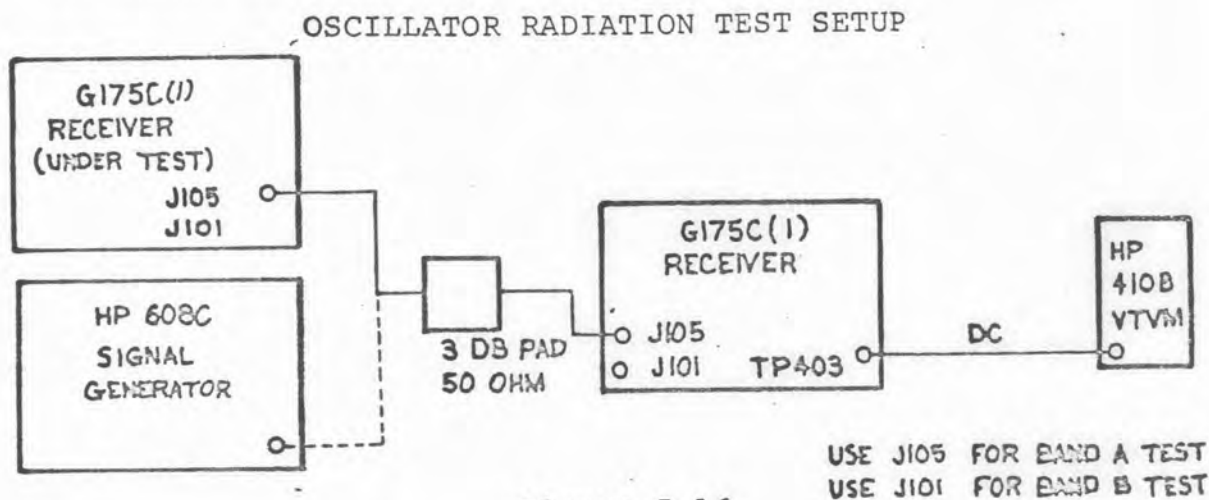

Figure 5-16
- a. Connect equipment as shown in figure 5-16.